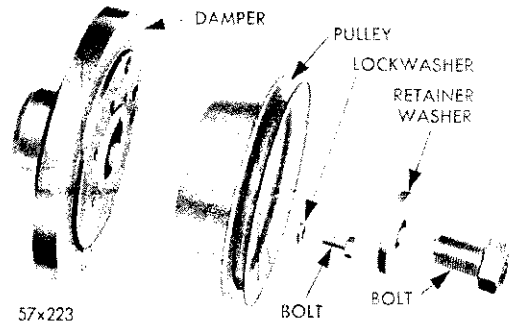

Fig. 35—Vibration Damper Assembly (Disassembled View)
21. INSTALLING VIBRATION DAMPER (Fig. 35)